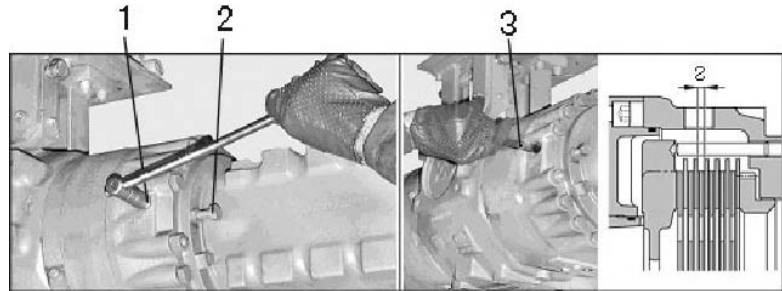

Figure 3-25
3.4.6.4 Verify and adjust the brake shoe clearance (figure 3-25)